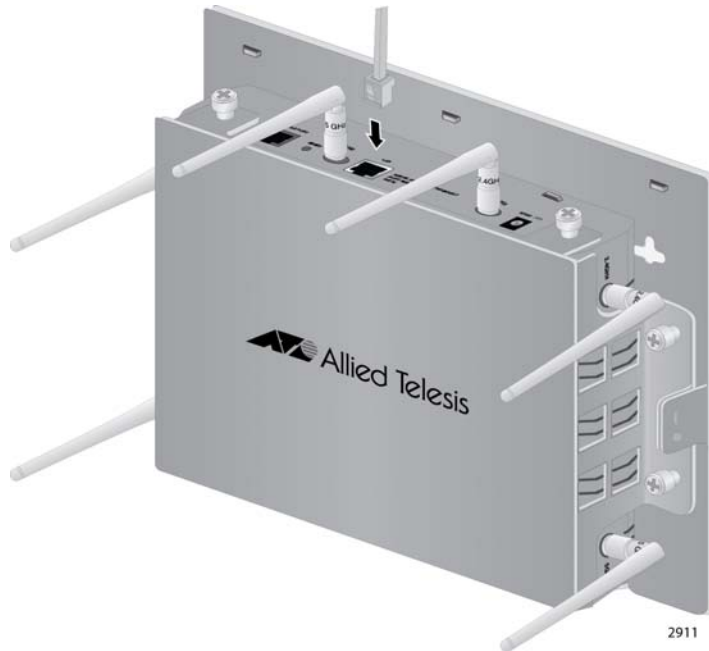

Figure 25. Attaching the LAN Cable
7. Attach a network cable to the LAN port. Refer to Figure 25 on page 47.